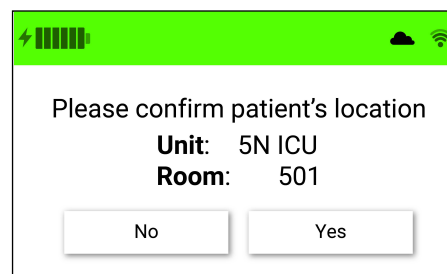

Figure 33. Validate patient unit and room number screen
1. Whenever the Guardian System 2.7 is unplugged and then plugged back into AC power during use on the bed & seat, it will prompt the user to validate the current patient unit and room number. (Fig. 33)